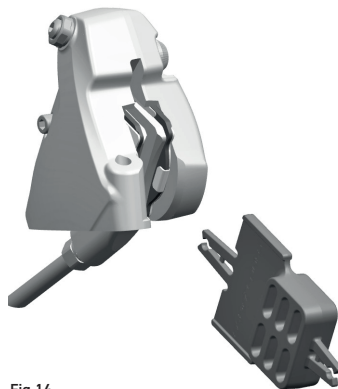
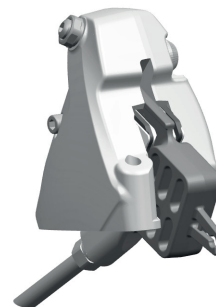

Fig.14
Fig.15
- If you need to remove the wheels from the bike, ensure that you have inserted the transport tool (Fig. 14 / Fig. 15) which prevents the brake pads from coming together if the brake lever is accidentally engaged, making it impossible to insert the disc.